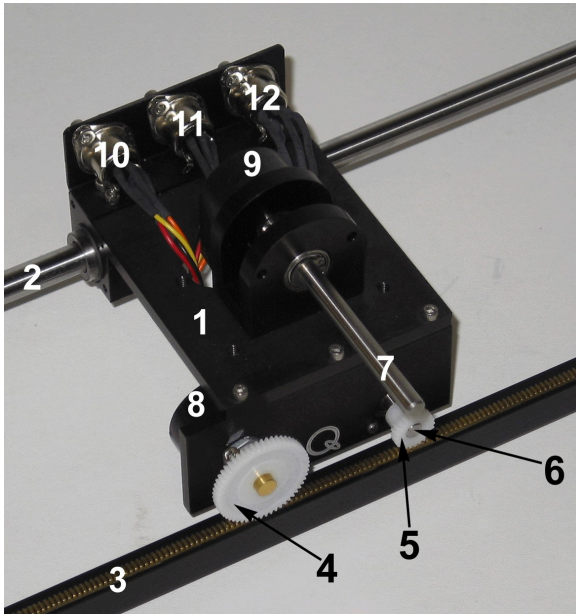
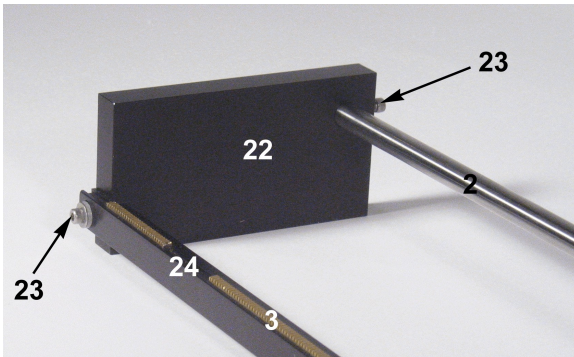
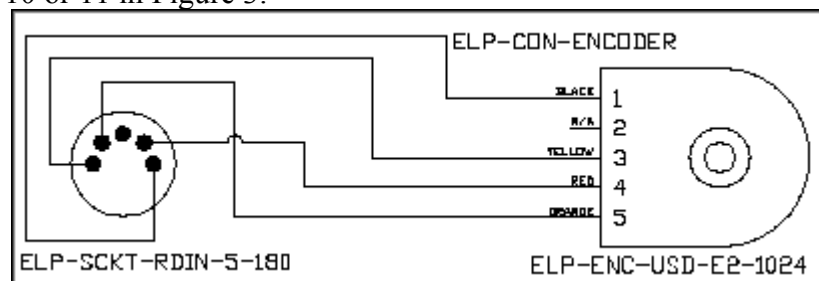

Figure 3 IP02: Front View
Figure 7 Rack Left End
Figure 10 IP02 Encoder Wiring
As a quick nomenclature, Table 5, below, provides a list of all the principal elements composing the IP01 and IP02 systems. Every element is located and identified, through a unique identification (ID) number, on the IP01 and/or IP02 systems represented in Figures 3, 4, 5, and 6, below, as well as Figures 7 and 8.
Moreover as illustrated in Figures 7 and 8 below, parts of the track are missing (feature or "component" #24) at both ends of the IP01 or IP02 rack. This feature plays the role of a hardware safety watchdog in preventing the IP01 or IP02 cart from running into one of the track's ends, which could potentially be damaging.
The supplied motor cable is designed to connect from a Quanser Universal Power Module to a 4-pin DIN connector, shown as component # 12 in Figures 3, 4, and 6, on page 7.
On the IP02, both cart and pendulum positions are measured with two optical encoders, represented in Figure 3 by components # 8 and 9, respectively. Having an encoder (as opposed to a potentiometer) sensing the pendulum angular position no longer constrains the range of motion of the pendulum to the inverted position. Therefore, self-erecting inverted pendulum experiments become possible. The encoder measuring the IP02 cart linear position does so through a rack-pinion system. Both encoders are typically identical. The encoder model used in the IP02 is a **US Digital S1 single-ended optical shaft encoder**. It offers a high resolution of 4096 counts per revolution (i.e. 1024 lines per revolution with two channels in quadrature). The complete specification sheet of the S1 optical shaft encoder is included in Appendix E. An incremental encoder gives a **relative** position signal.
The position signal generated by the encoder should be directly connected to a Quanser terminal board (a.k.a. I/O card) using a standard 5-pin DIN cable. **DO NOT connect the encoder signal to the amplifier.** The internal wiring diagram of the IP02 encoder is depicted in Figure 10. The standard 5-pin DIN connector, shown in Figure 10, is also pictured as component # 10 or 11 in Figure 3.